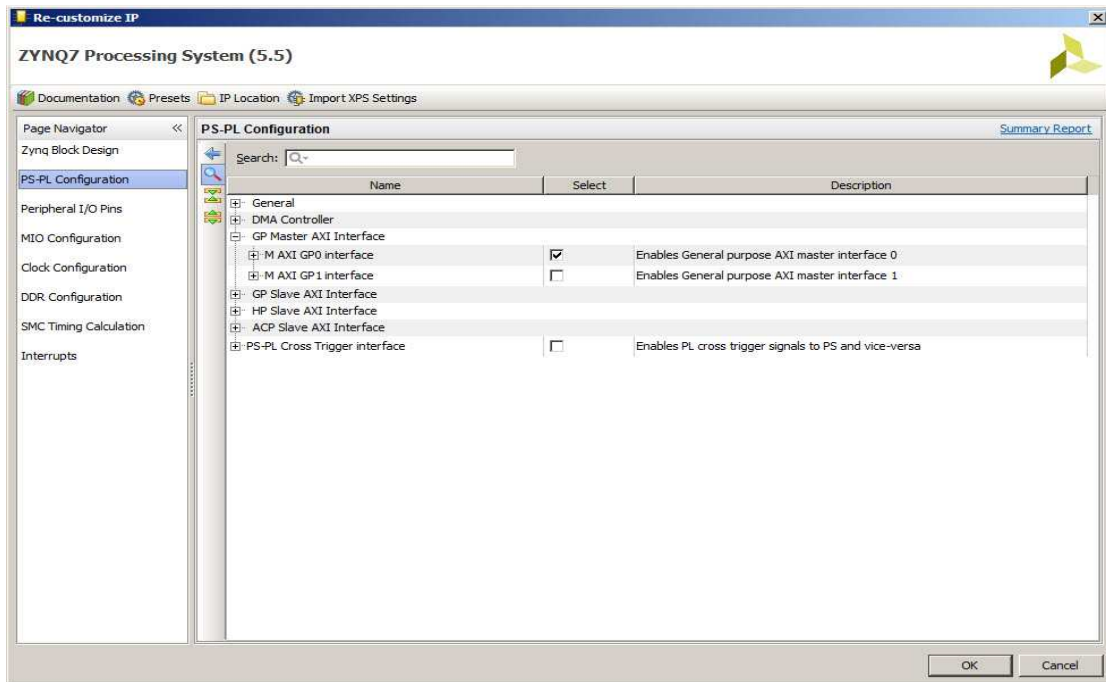

Figure 11: PS-PL Configuration
14. From the Page Navigator, **select** “Clock Configuration” and open the “PL Fabric Clocks” tree as seen in **Figure 11**.